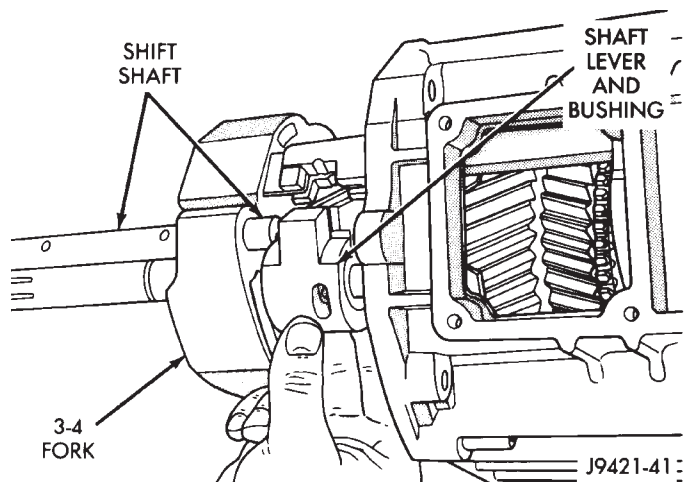

Fig. 106 Installing Shift Shaft Lever And Bushing
(5) Install assembled lever and bushing on shift shaft (Fig. 106).